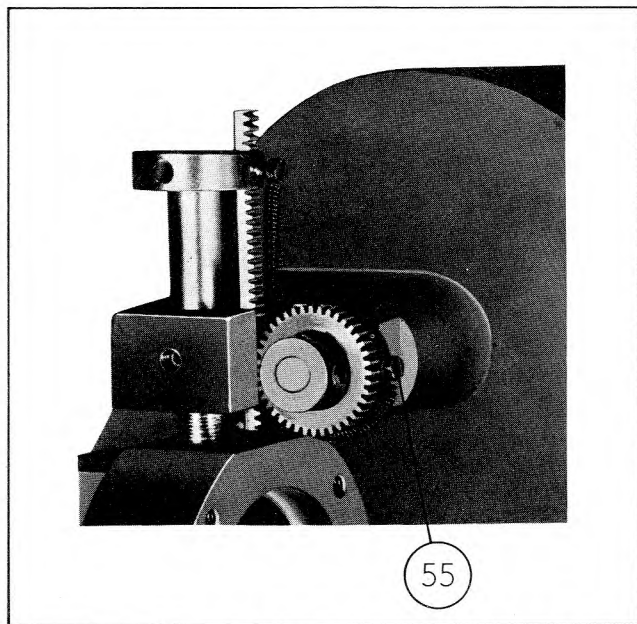

Figure 4-41. Monitor Drive Loading Spring in Place
Figure 4-41 shows the spring-loading system for the monitor pick-up. The rack should be meshed with the pinion in such a way that when the POWER SET con-
control is completely counter-clockwise, the end of the rack is $1/16''$ from the cavity. At this point the screw (55) in the pinion should be at three o'clock as shown. If necessary, reset the pinion to obtain this requirement, but retighten the set screws in the pinion a little at a time so that the pinion is not tilted on its shaft and so that there is negligible end play in the pinion drive. The collar should then be secured to the rack as shown in figure 4-41. The collar should not touch the end of the RF probe holder and if necessary the rack can be remeshed with the pinion so that the collar does not travel as far as the end of the RF probe holder. The spring can then be strung as shown.